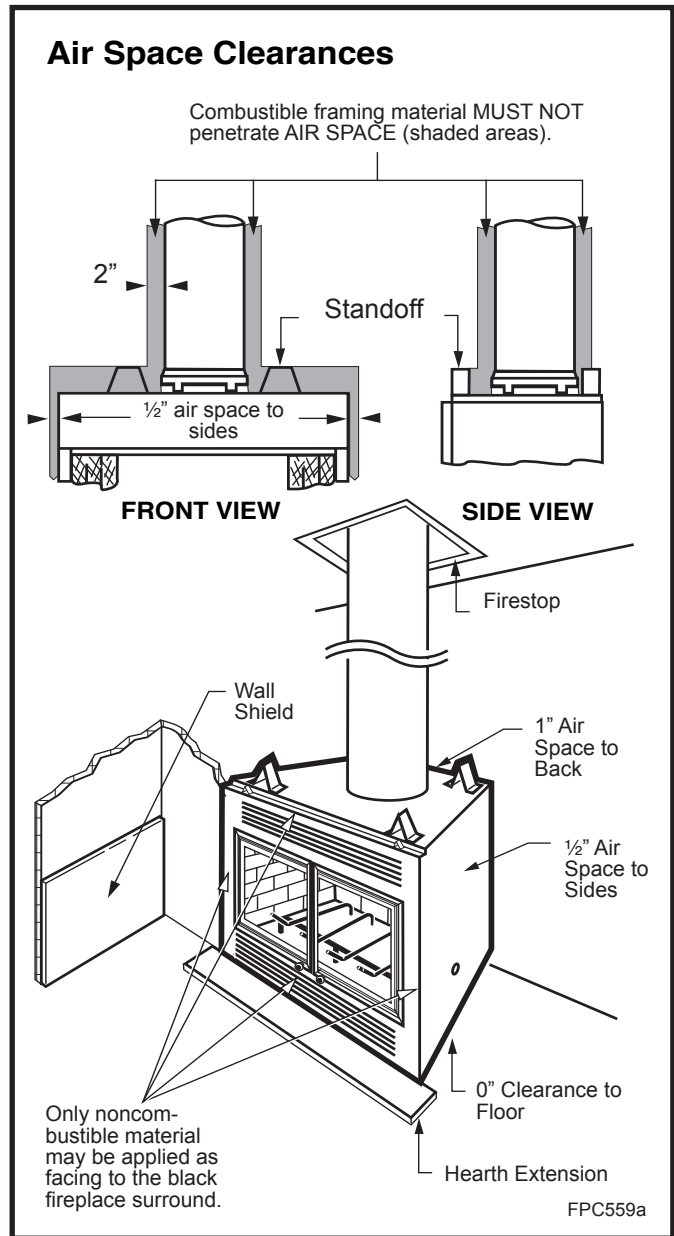
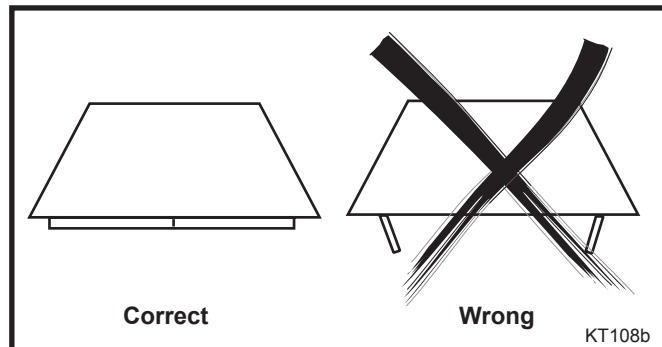

Fig. 17 Minimum clearances to combustibles.
Fig. 23 Correct door position.
**CAUTION:** All joints between the finished wall and the fireplace surround (top/sides) must be sealed with non-combustible material to prevent cold air leakage into the room. Only noncombustible material may be applied to the facing of the fireplace surround. (Black painted area) (Fig. 17)
Adjacent combustible side walls that are within minimum dimensions shown in Figure 23 of the fireplace opening must be protected with MHSC Wall Shield Model SP40 or a specifically built wall shield described in Figure 17.
The BFC36 is intended for use only with the doors fully closed. (Fig. 23)